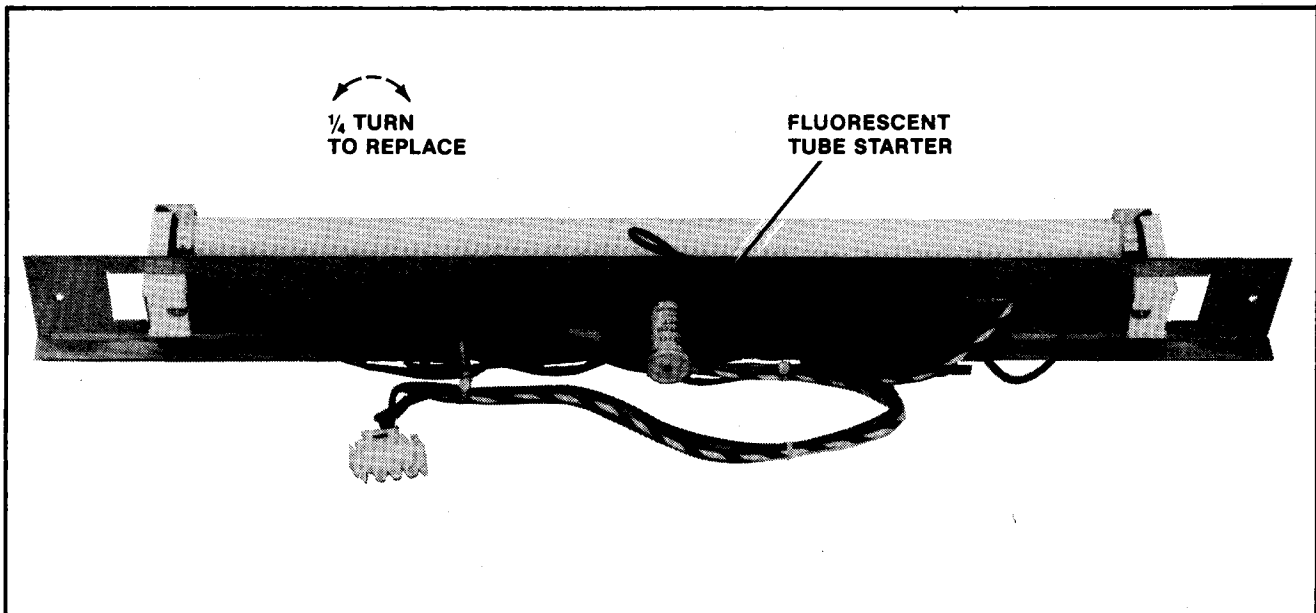

Figure 4-16 Replacing Fluorescent Tube Starter
- Replacing the fluorescent light tube starter. See Figure 4-16.